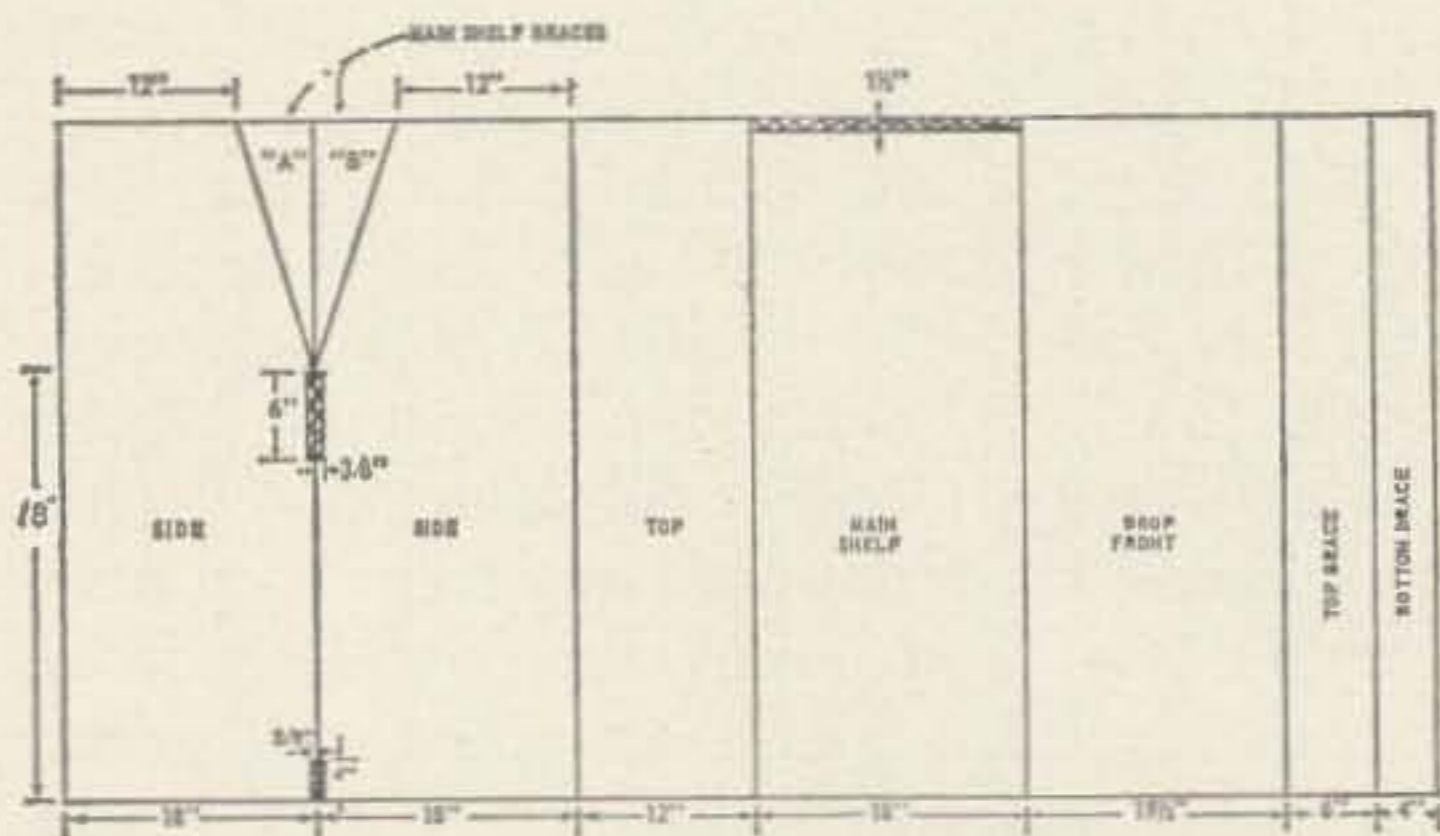

Fig. 1. Pattern layout for the basic desk operating cabinet. It's laid out on a 4' x 8' sheet of $\frac{3}{4}$ " plywood.
Fig. 1C shows a direct pickup from the feedline. This is more difficult and low-power transmitters (under 75 watts) may not have enough rf for a good size pattern. For high power the size of the coupling capacitor must be determined by experiment. The blocking capacitors shown in Fig. 1 isolate centering voltages present on the deflecting plates from the rf pickup circuits. They are usually included in the oscilloscope—if not, add them.
1. Layout the pattern (Fig. 1) on the plywood sheet. Plywood is normally clear on one side but has knotholes on the other. Juggle the pattern so the drop-front and the upper halves of the sides are clear wood on both sides.
3. Fasten the main and bottom shelf supports (A & B Fig. 1 for the main shelf and two 18" pieces of the 1x4 for the bottom shelf) to the sides with at least four 1½" wood screws in each. (These pieces must hold the entire weight of all equipment installed.)